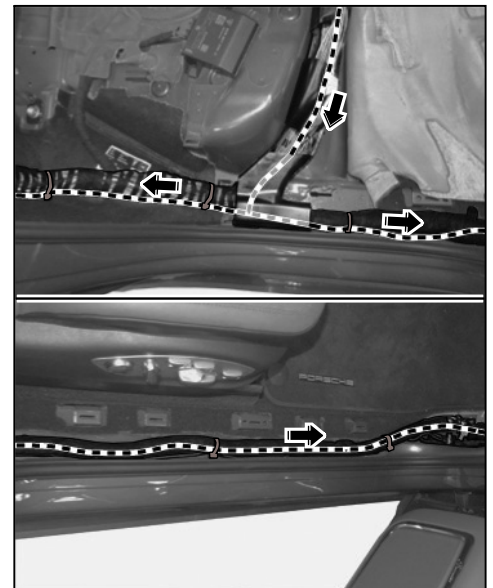

Figure 11
- 2.3.1 Push pin connector socket ⇒ *Figure 7-1*- onto the upper guide ⇒ *Figure 7-3*- at the connection point holder ⇒ *Figure 7-2*- (⇒ *Figure 11* -**arrow**-).